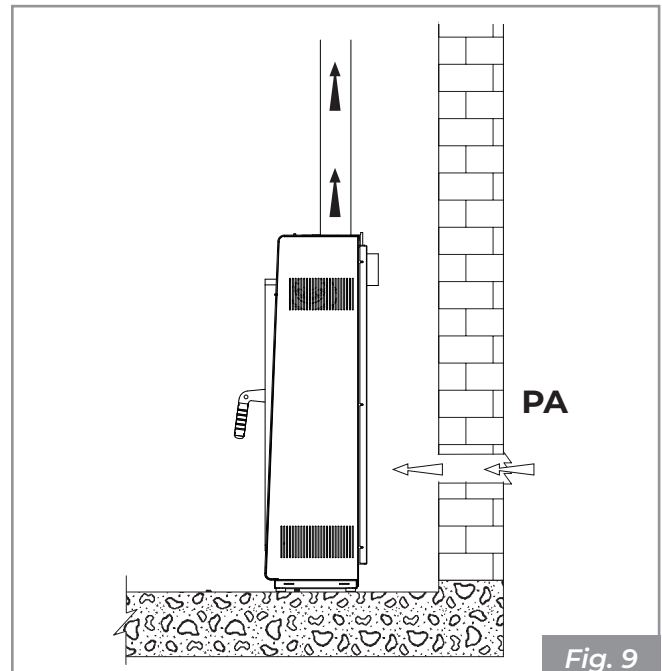

Fig. 9
- coming from the installation environment or from suitable adjacent rooms (Fig. 9)
Create the air intake on the wall (**Fig. 9 - PA = Air Intake**), and leave the appliance free to bring air into the room.